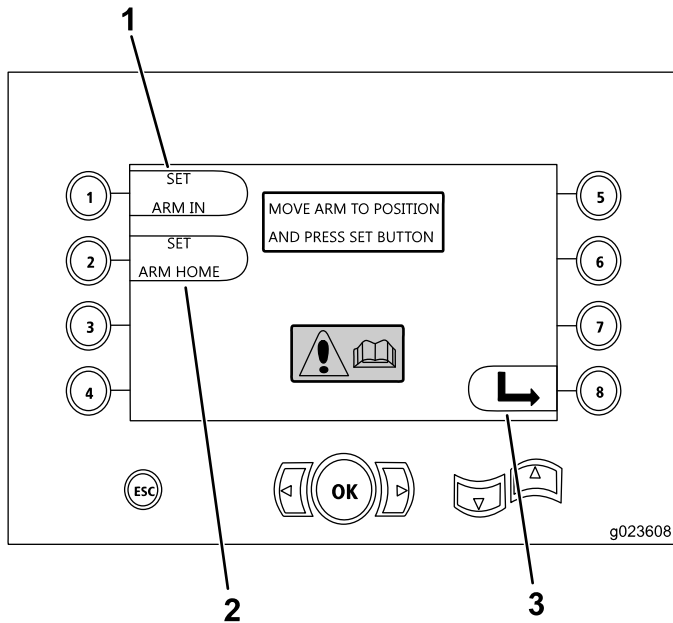

Figure 31
- Button 1—Set arm In (Figure 31)
- Button 2—Set arm Home (Figure 31)